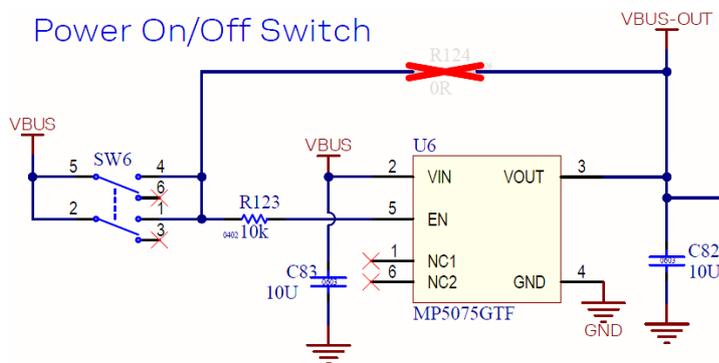

Figure 7: EVK-IRIS-W10 maximum current options
- Populate the 2.4 A power switch **U6** (MP5075GTF) and disconnect **R124**, as shown in Figure 7.